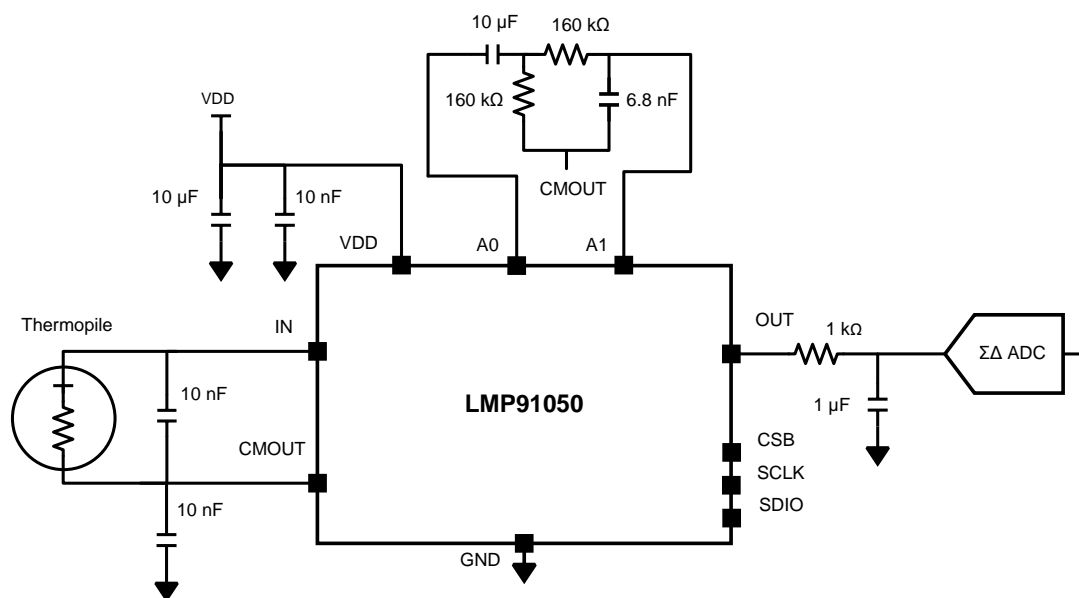

Figure 26. Typical NDIR Sensing Application Circuit
Figure 26 shows a typical NDIR sensing circuit with a bandpass filter with a high frequency cutoff of approximately 100 Hz. The lowpass filter at the output has a cutoff of approximately 110 Hz.
- Select the appropriate inter-stage bandpass filter bandwidth. Note that the common mode voltage (CMOUT) is connected to both the thermopile and the bandpass filter, as shown in Figure 26.
Because the LMP91050 is used in a sampled data system, care must be taken to maintain power supply noise below an acceptable level, which will depend on the requirements of the application. In all cases, follow the manufacturer's design recommendations for the power conditioning device used in the system. The LMP91050 offers excellent power supply rejection over a wide range of frequencies, but adequate power supply bypassing should always be used (see Figure 26). If using a switching supply, additional filtering may be required particularly if the switcher harmonics fall within the passband of the filters used in the system. Ensure that the selected power conditioning device is capable of sourcing the current required by the LMP91050.